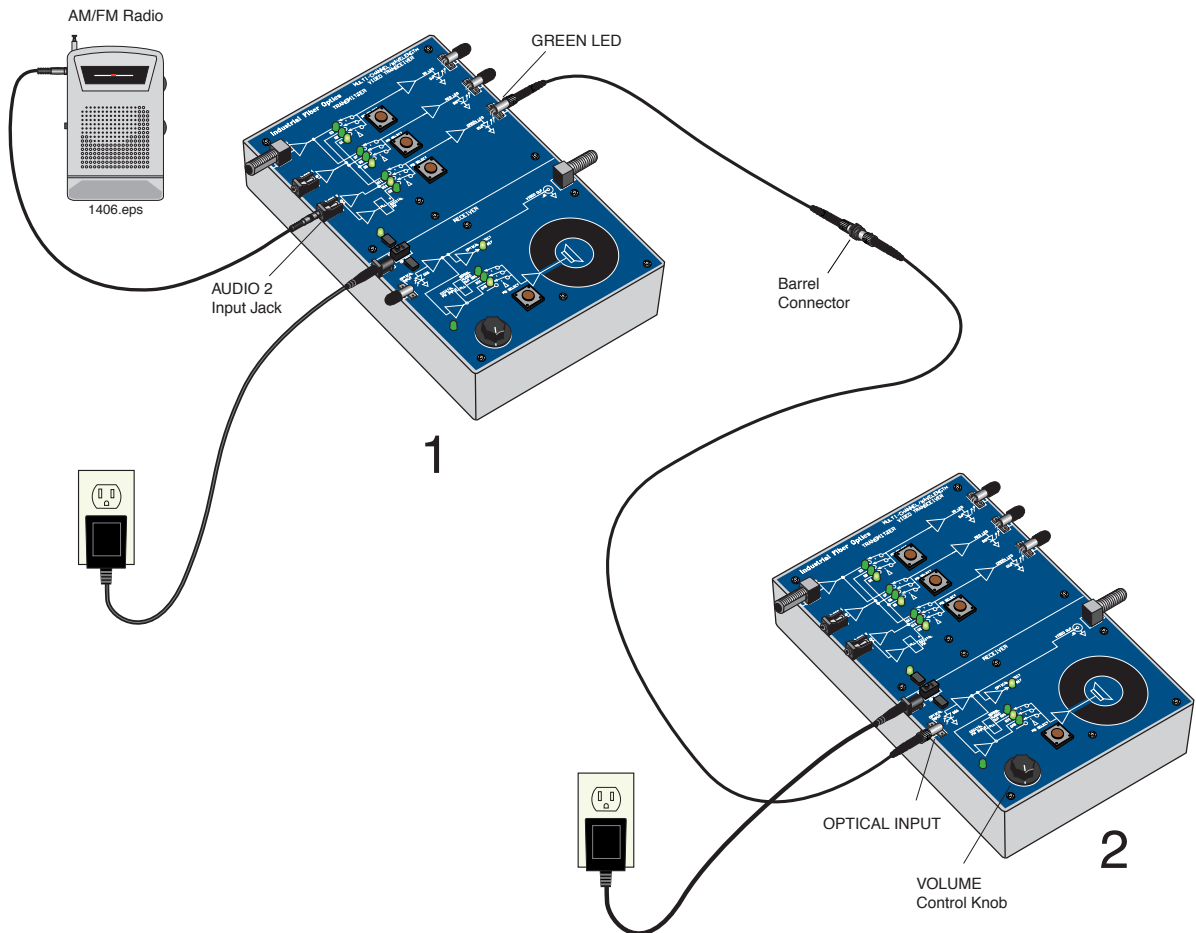

Figure 25. Test diagram for Experiment B for comparing decreased signal transmission with longer fibers.
- Your equipment set-up in this experiment should not look like the diagram in Figure 25.